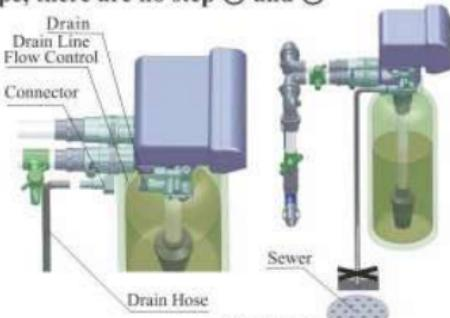

Figure 1-4
- If the valve belongs to time clock type, there are no step ② and ③
⑤ Install drain pipeline
- a. As the Figure 1-4 shows, slide the drain hose connector into drain outlet.
- d. Locate the drain hose well as the Figure 1-4 shows.
- Be sure not connect drain with sewer directly, and leave a certain space between them, avoid wastewater being absorbing to the water treatment equipment, such as showed in the Figure 1-4.
⑥ Connect brine tube